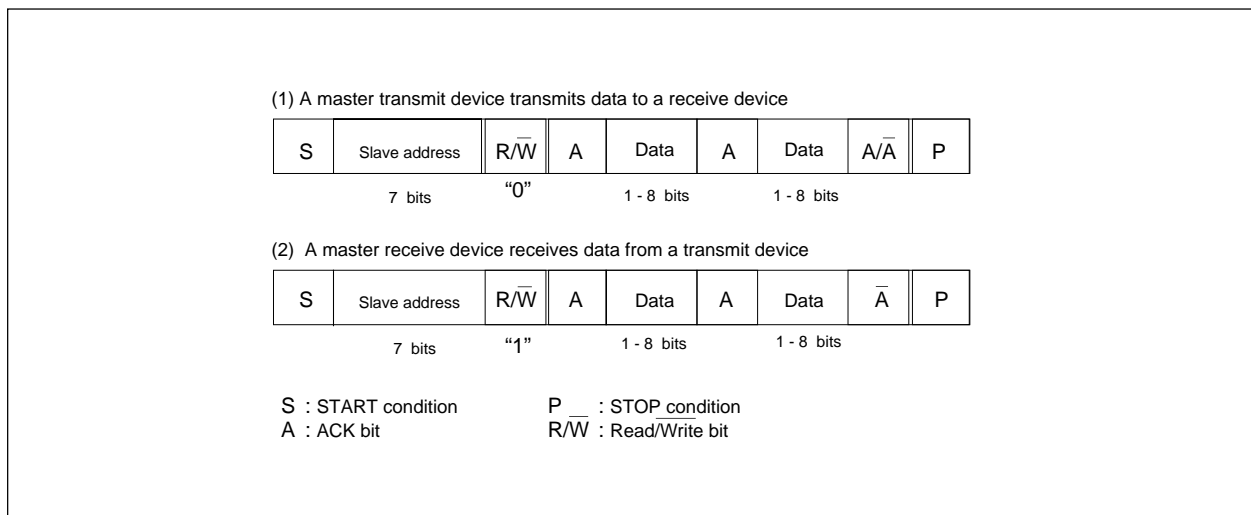

Figure 16.20 Address data communication format
This section describes data transmit control when a master transfers data or a slave receives data in 7-bit address format. **Figure 16.20 (1)** shows a master transmit format.